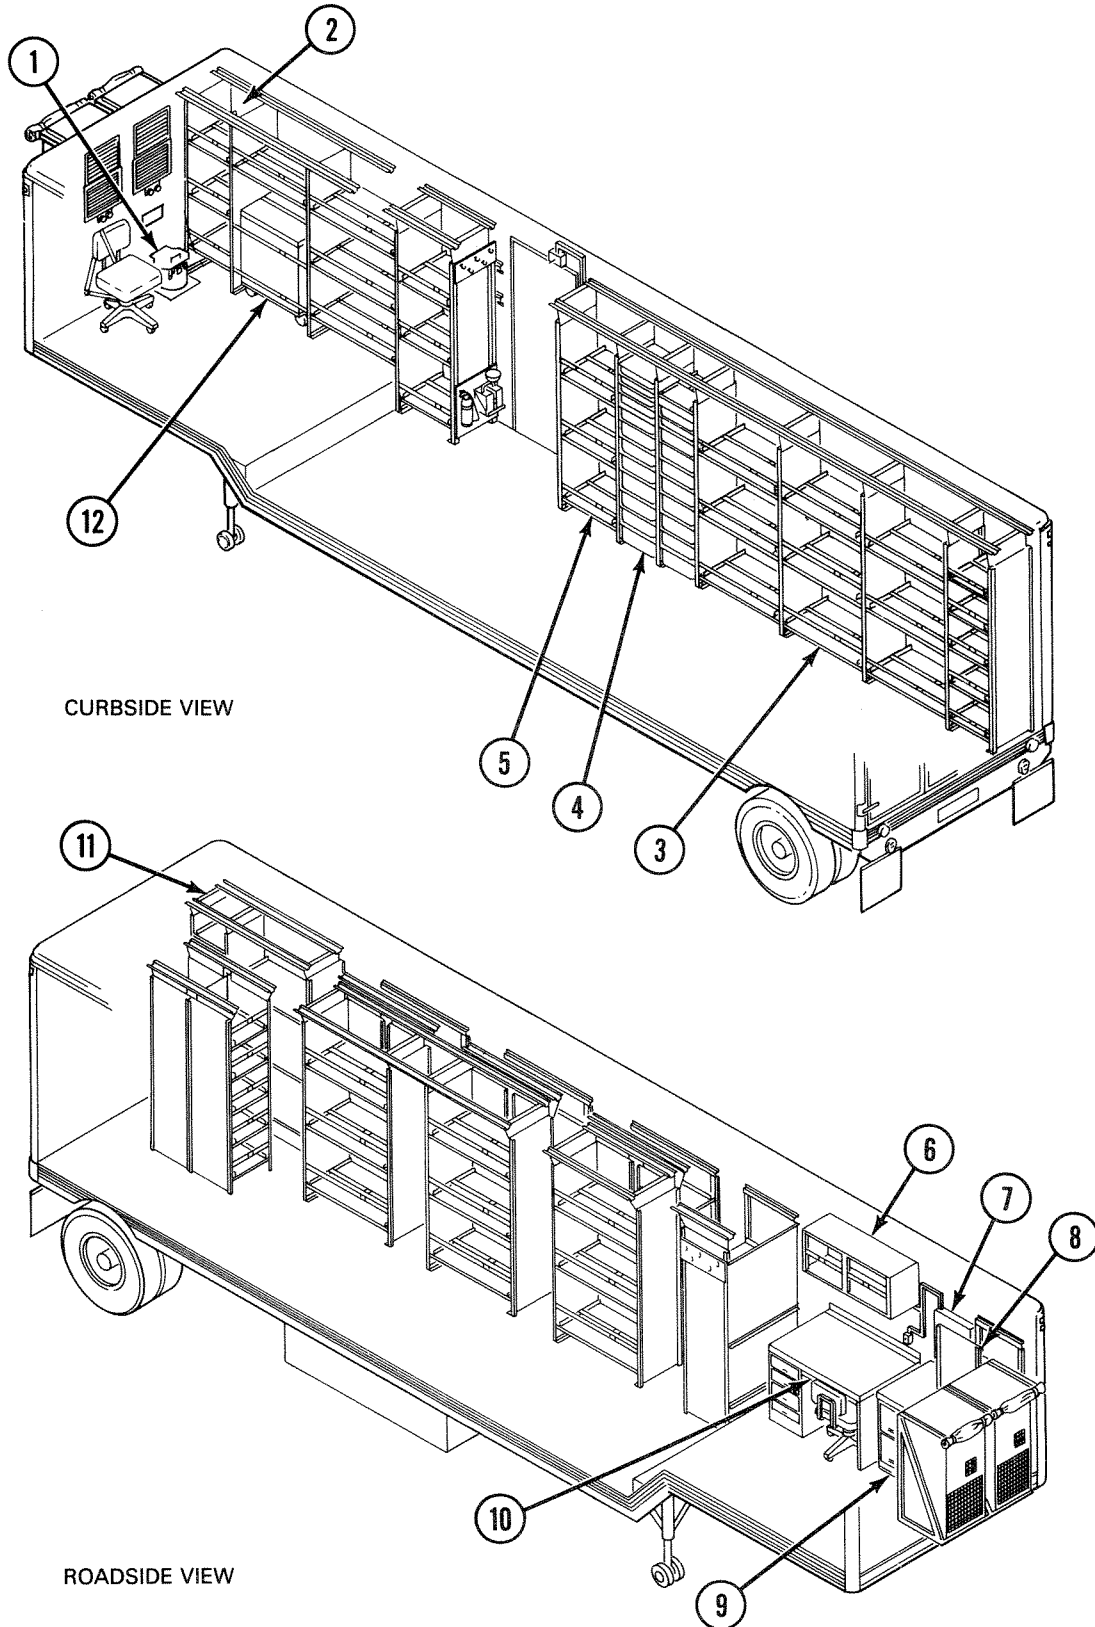

Figure 2-40. Repair Parts Shop Major Interior Features
b. Interior Features. Figure 2-40 shows repair parts shop major interior features.